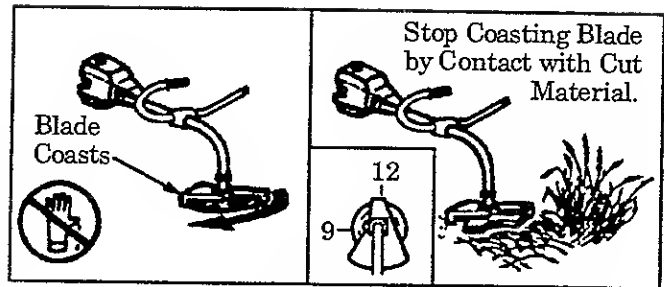

Figure 10
- c. Stop the blade by allowing the "9 o'clock" position to contact cut material. Figure 10.